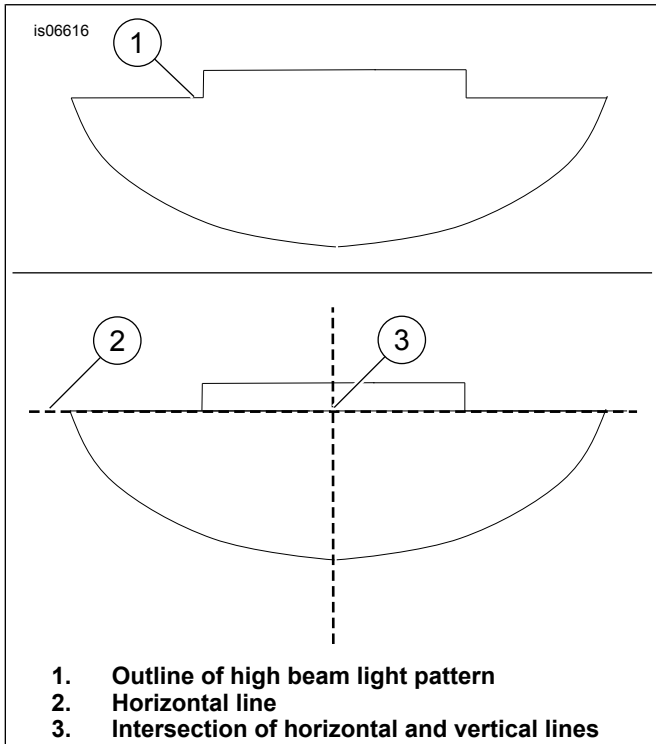

Figure 4. Alignment of Headlamp High Beam
1. See Figure 4. With vehicle laden and upright, point the front wheel straight forward at wall.
2. Turn on the **high beam**. Align the center of the **high beam** hot spot with the intersection of the horizontal and vertical lines (3).